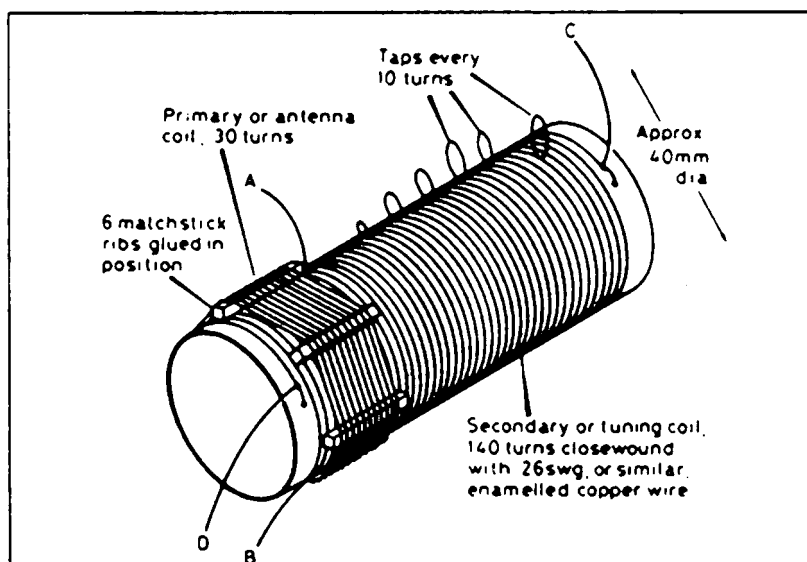

Figure 2 The coil is mounted on a cardboard tube as shown. Exact size is not too important. Try different taps for best results
Winding the coil always causes the most groans but when finished, gives the most satisfaction. The construction of the coil is detailed in **Figure 2**. A discarded toilet roll centre is an ideal *former* on which to wind the coil. The coil will take up about 7 cm of the length of the tube, so assuming the tube is about 11 cm long, the ends of the coil will be about 2 cm in from each end of the tube.
- Looking at Figure 2, make two small holes about 3 mm apart, about 2 cm down from the top of the tube, where wire C will be entering. Poke the end of the wire into one hole, then bring it out again through the other; leave about 10 cm of wire on the free end. Loop this wire in and out once more, thus anchoring the wire firmly.